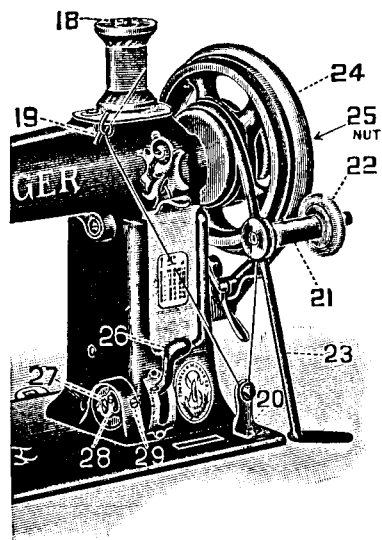

Fig. 8
Loosen the stop motion clamping screw (25) outside of the balance wheel (24). Place the bobbin on the bobbin winder spindle. Put the spool of thread on spool pin (18), draw the free end of the thread into eyelet (19), thence down between the tension discs (20) and up around the bobbin. The free end of the thread must be held by the hand until a few coils are wound and should then be broken off. Fig. 8 shows the bobbin winder properly threaded and in position for winding.
When the feed regulating handle (26, see Fig. 8) stands at (o) on the graduated scale, there is no movement of the goods, but as the handle is raised the goods feed forward, or if the handle is lowered below (o) the goods feed backward (toward you) to tack or make fastening off stitches.